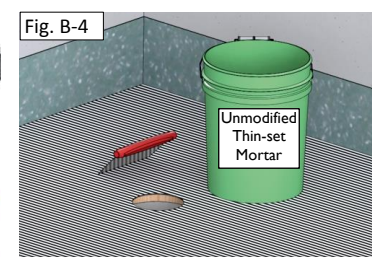

Fig. B-4
- Apply Unmodified Thin-Set Mortar to the subfloor using a 1/4" x 3/8" square or U-notched trowel (Fig. B-4)